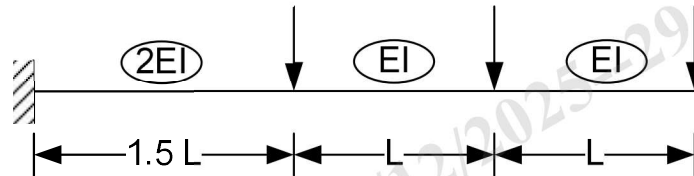

Figure 2
- g) Explain: (I) Lower bound theorem, (II) Upper bound theorem and uniqueness theorem.
- j) Develop the flexibility matrix for the cantilever with coordinates as shown in Figure 2.